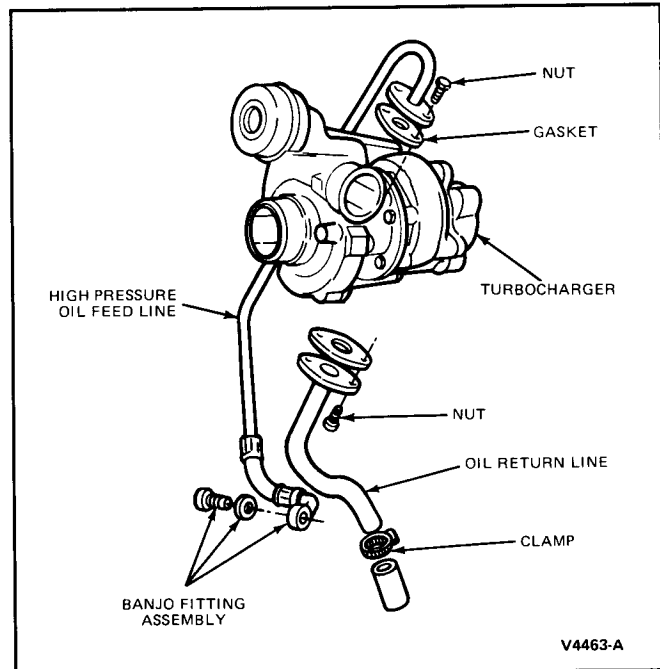

FIG. 5 Turbocharger Oil Lines
6. Remove clamp from oil lines (Fig. 5).